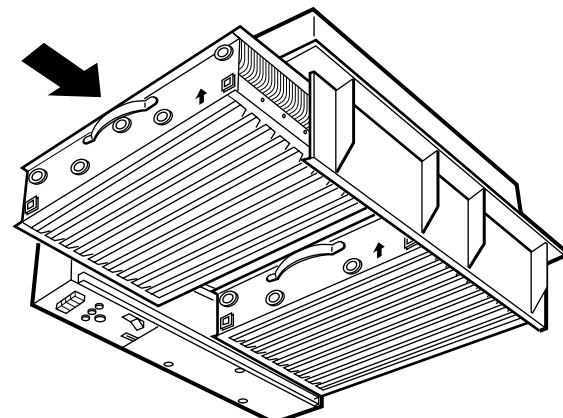

Fig. 16. Reinstalling F90 cells.
2. Replace the activated carbon filters with new filters if needs replacement. See Fig. 16.